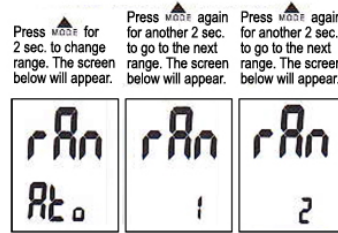

FIGURE 1
2. Press mode key for about 2sec to select μS range, "rAn" & "1" text will appear on screen. (see figure 1)
3. Press mode key for about 2sec again to select mS range, "rAn" & "2" text will appear on screen. (see figure 1)
4. Press mode key for about 2sec to select auto-ranging, "rAn" & "Ato" text will appear on screen. (see figure 1)
2. Press mode key for about 2sec to select ppm range, "rAn" & "1" text will appear on screen. (see figure 1)
3. Press mode key for about 2sec again to select ppt range, "rAn" & "2" text will appear on screen. (see figure 1)